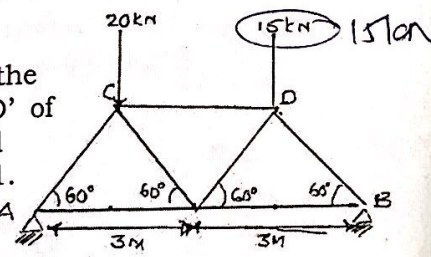

Fig. 11
- a) Using unit load method or any other energy method. Find the vertical displacement at point 'D' of the pin jointed truss loaded and supported as shown in figure 11. Take AE constant for all members. (10)